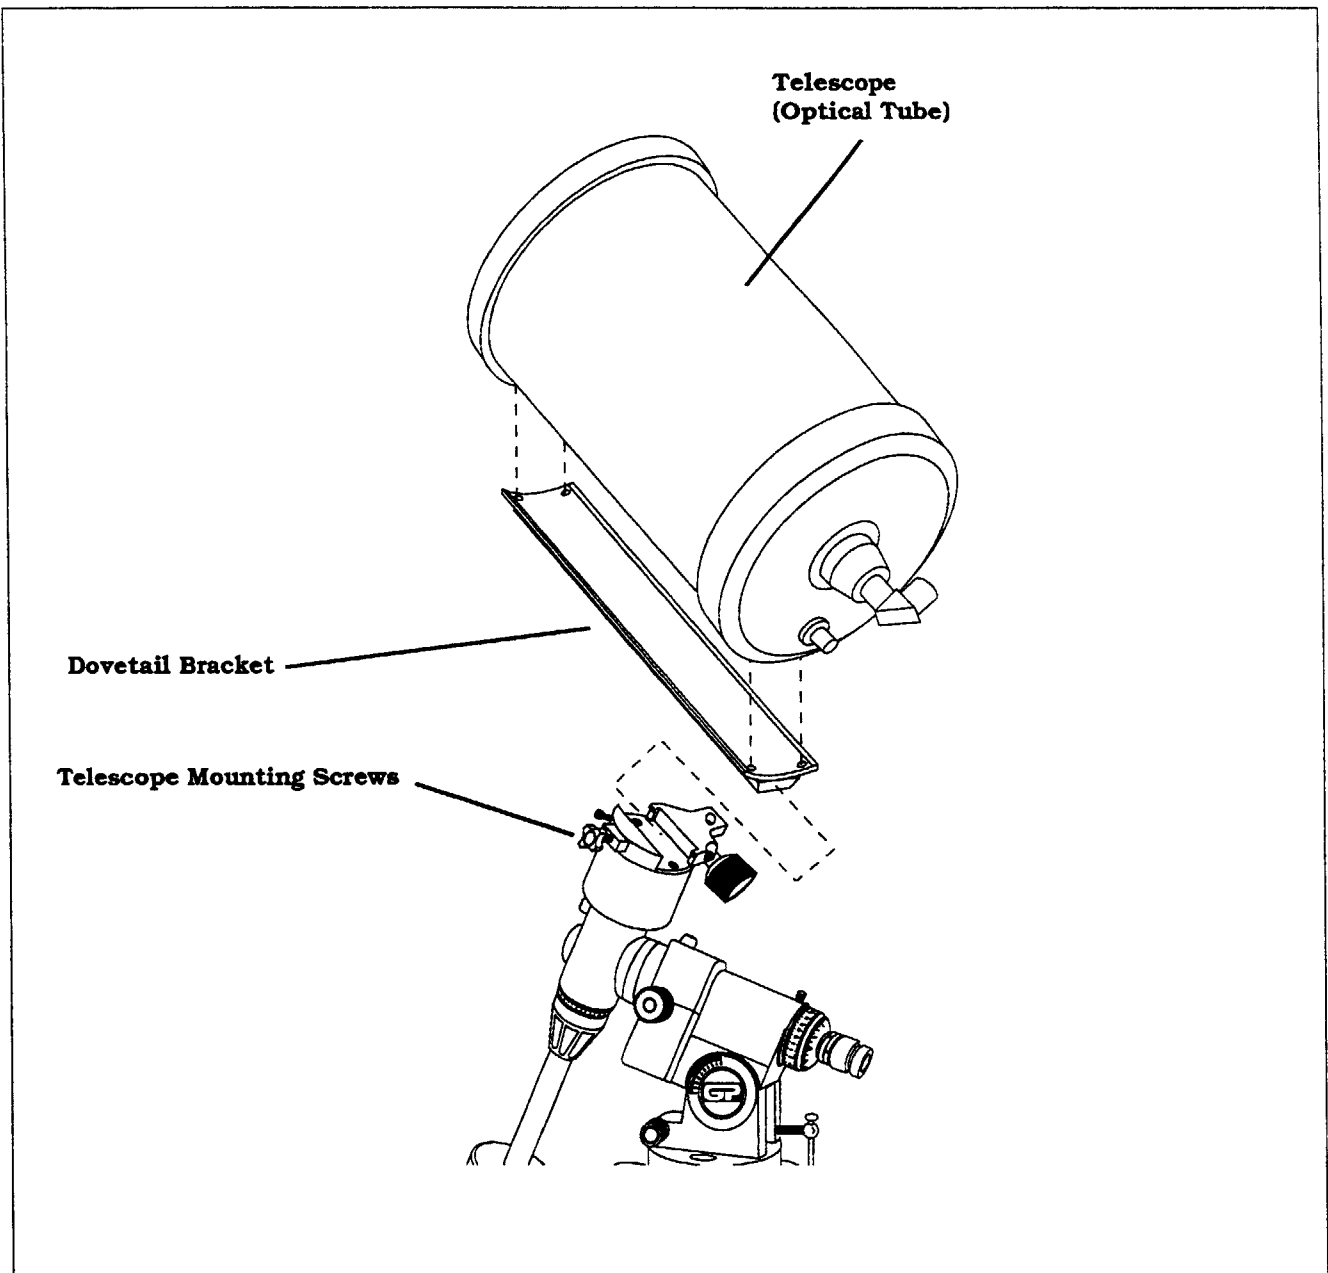

Figure 2-9
2. Slide the dovetail bar that is attached to the telescope onto the GP mount (see figure 2-9).